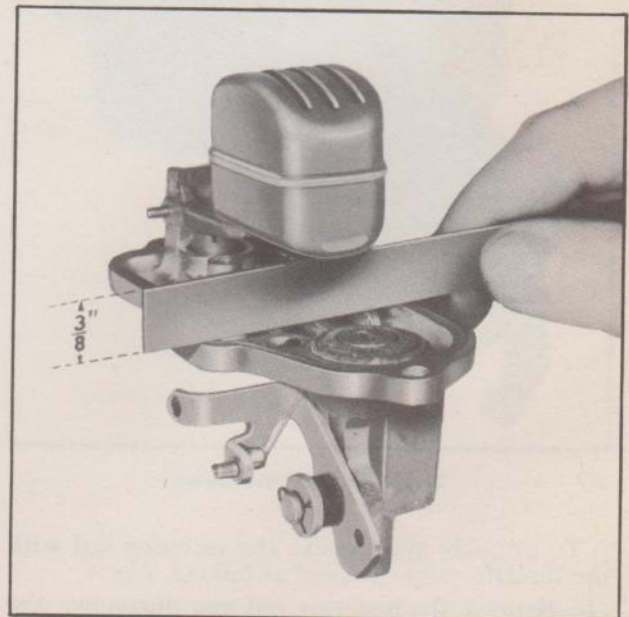

Fig. 8—Checking Float Level
underside of the bowl cover (with the gasket removed) to the top of the float. This measurement should be  $\frac{3}{8}$ ". The gauge shown in Fig. 8 is a convenient tool for making this check.
9. With the cover turned upside down, check the float level by measuring from the cover to the float. This distance should be 3/8". See Fig. 8.